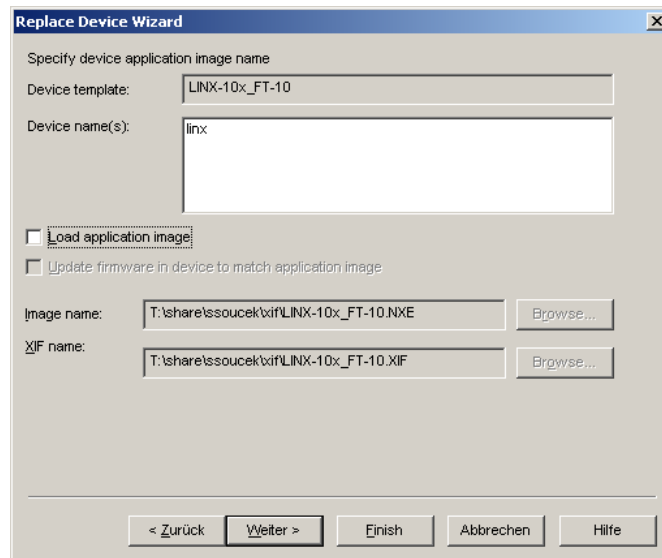

Figure 80: Click Next without loading an application image.
4. In the following window shown in Figure 80 click **Next**.